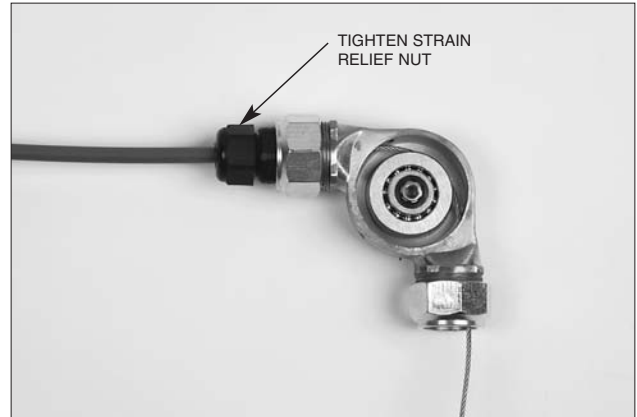

Figure 4-55.
8. Tighten the strain relief nut onto the strain relief. See **Figure 4.55**.